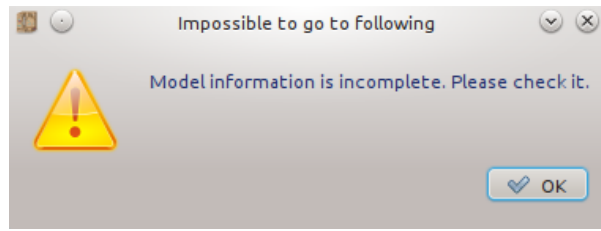

Figure 16: Error message: incomplete model information
**Error case:** If the information is invalid, the following message (see figure 16) appears when you click the  button: